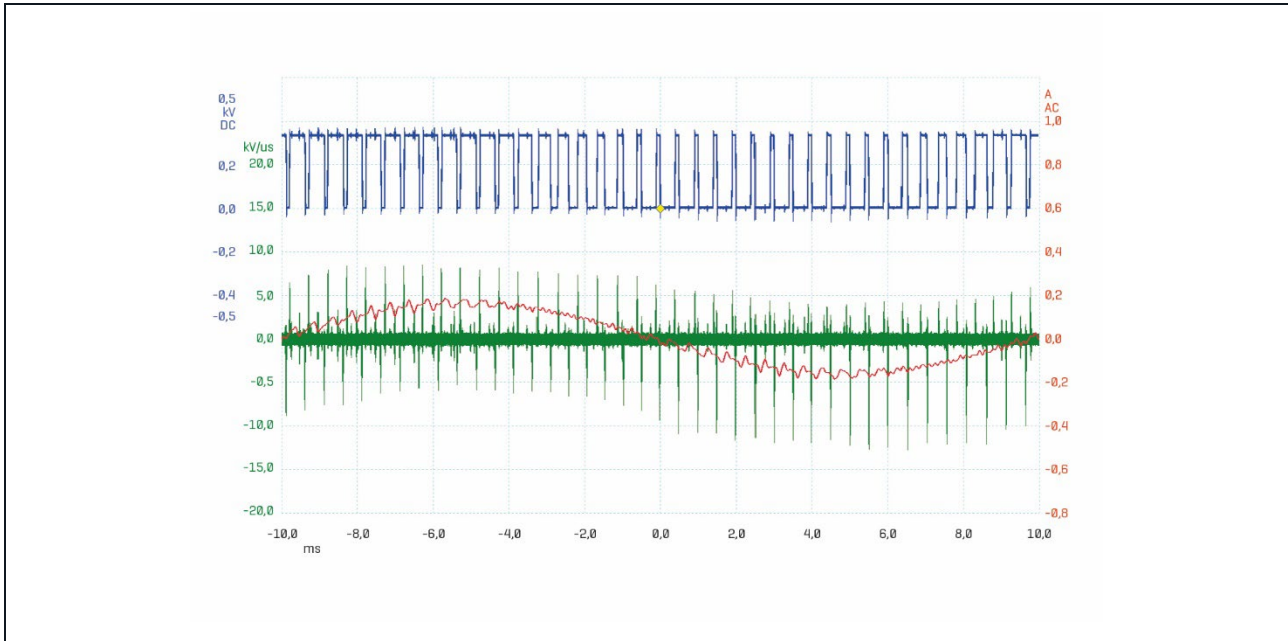

Figure 8: Low noise with 15-bit / 8 ns
- a) 15-Bit AD resolution / 8 ns sampling time (Fig. 8)
Fig. 8 shows that a **high** AD resolution (15-bit) and a **long** sampling time (8 ns) result in **low** noise.